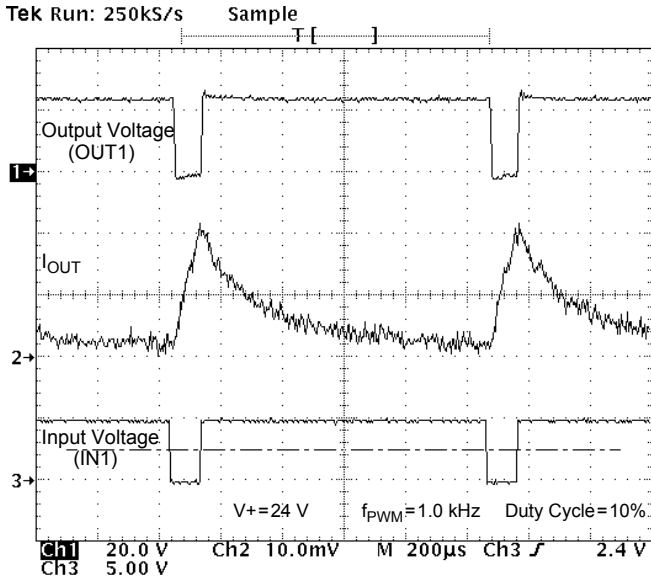

Figure 11. Output Voltage and Current vs. Input Voltage at  $V^+ = 24 \text{ V}$ , PMW Frequency of 1.0 kHz, and Duty Cycle of 10%
20. The outputs can be PWM controlled from an external source. This is typically done by holding one input high while applying a PWM pulse train to the other input. The maximum PWM frequency obtainable is a compromise between switching losses and switching frequency. Refer to Typical Switching Waveforms, Figures 11 through 18, pp. 12–13.